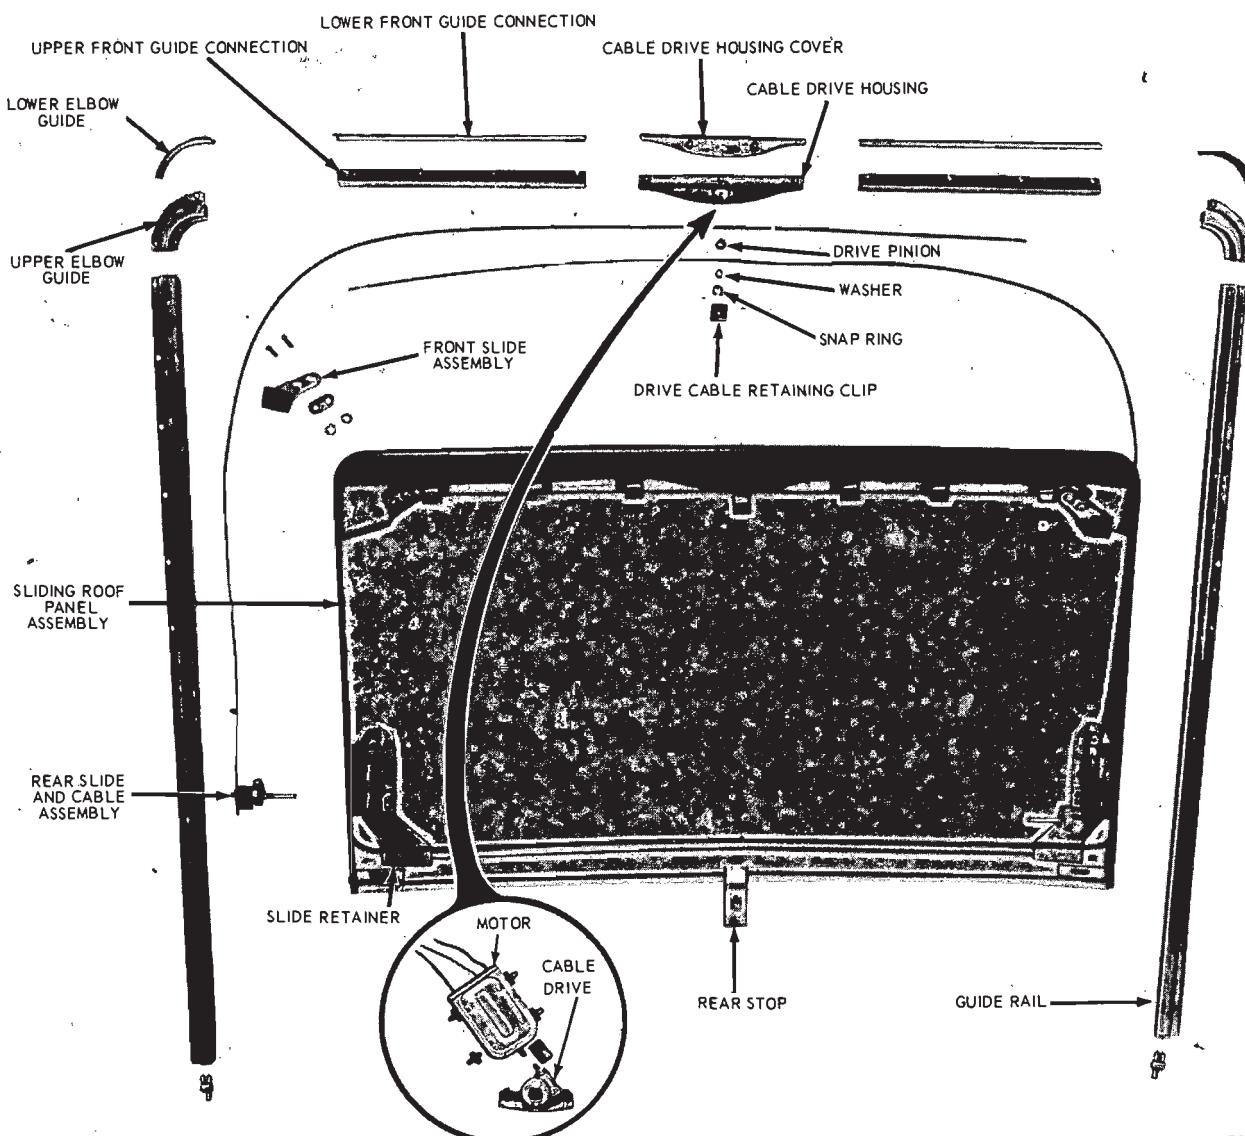

FIG. 3—Sun Roof Sliding Panel—Disassembled View
The sun roof panel slides backward and forward on guide rails and is actuated by a two-way electric motor mounted at the center of the windshield header area. The motor, through a drive coupling, turns a drive assembly whose output shaft extends up into the cable drive housing (Figs. 3 and 4). A pinion on the end of the output shaft drives flexible cables which are attached to the sun roof panel.
Close the roof panel. Determine which side of the panel jams. Open the roof panel. Remove the drive housing center cover. Pry off the drive cable retaining clip (Fig. 3). To move the right side of the roof panel forward, lift the right cable at the front of the pinion and pull it one or more teeth to the left (Fig. 4). Install the retaining clip and the drive housing cover and check the operation. To move the left side of the roof panel forward, perform the same operation on the left cable. Do not accidentally move the panel while the cable is off the pinion.
If one side of the roof panel does not raise or if the roof panel jams up during its travel, check both front corner lower elbow guides for alignment with the front and side guides. If necessary, shim the lower elbow guides to move the guides inboard for alignment with adjacent guides (Fig. 3).
full open position and remove the cable drive housing cover (Fig. 3). Remove the drive cable retaining clip and disengage the drive cables from the pinion (Fig. 4).
If the gear box and drive assembly is being removed, first remove both left and right guide front connections and the elbow guides (Fig. 3); and then, remove the straight front center track (three retaining screws) shown in Fig. 4. Removing the straight front center track gives access to the two screws that retain the cable drive housing to the gear box and drive assembly in the stationary front roof panel. Remove these retaining screws and lift the cable drive housing out over the pinion.
2. Remove the cable drive housing cover at the front center of the roof opening, and remove both upper elbow guides at the front corners (Fig. 3).